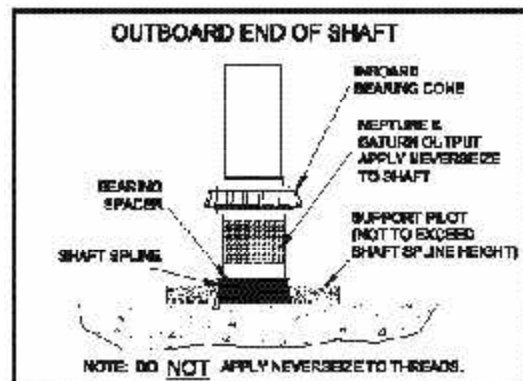

Figure 6.3.6.1—Placement of Inboard Bearing Cone on Shaft
5. Place the inboard bearing cone squarely on the outboard end of the shaft with the smaller diameter of the bearing facing outboard; reference Figure 6.3.6.1.